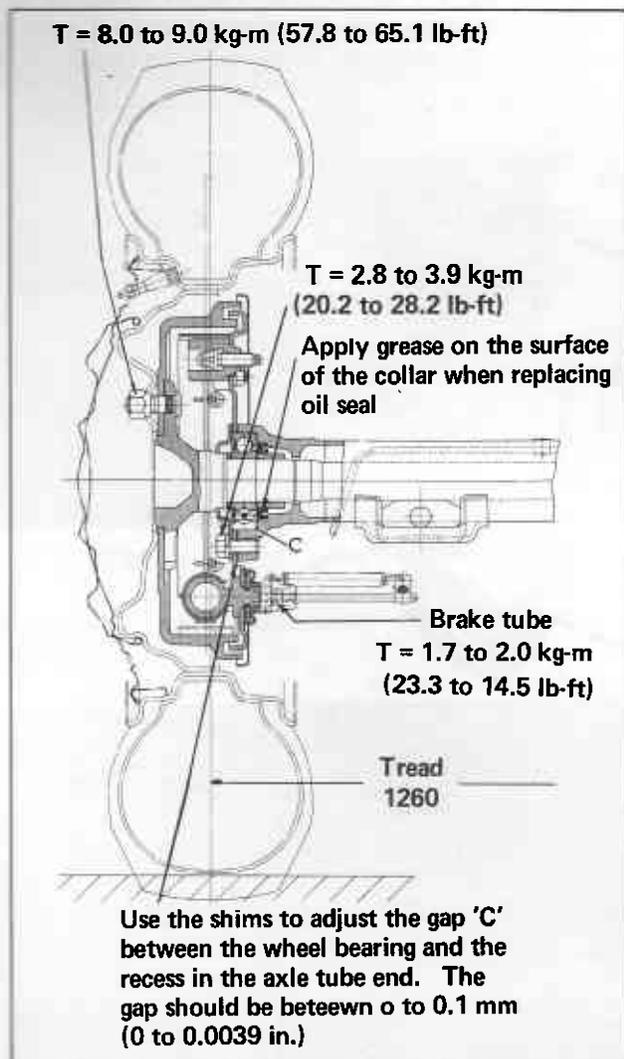

Fig. RA-33 Sectional view of rear axle
5. Adjust the axial end play between the wheel bearing and the recess in the axle tube end by using adjusting shims (See Fig. RA-33 and 34). The end play should be 0.3 to 0.5 mm (0.0118 to 0.0197 in.).